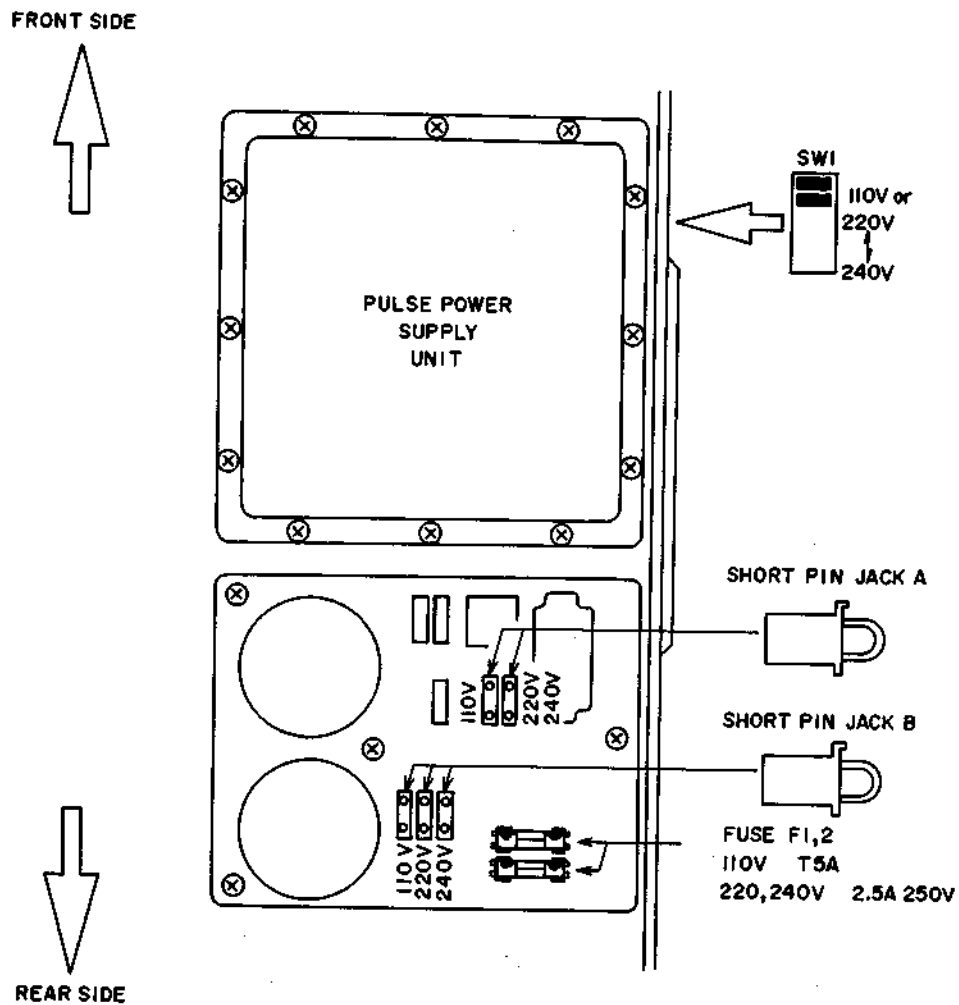

Fig. 4 Voltage Conversion (U/T Model)
1. U/T MODEL (Refer to Fig. 4)
3. Align the short pin jacks A and B with the position for each voltage area as shown in Fig. 4 and then plug in.